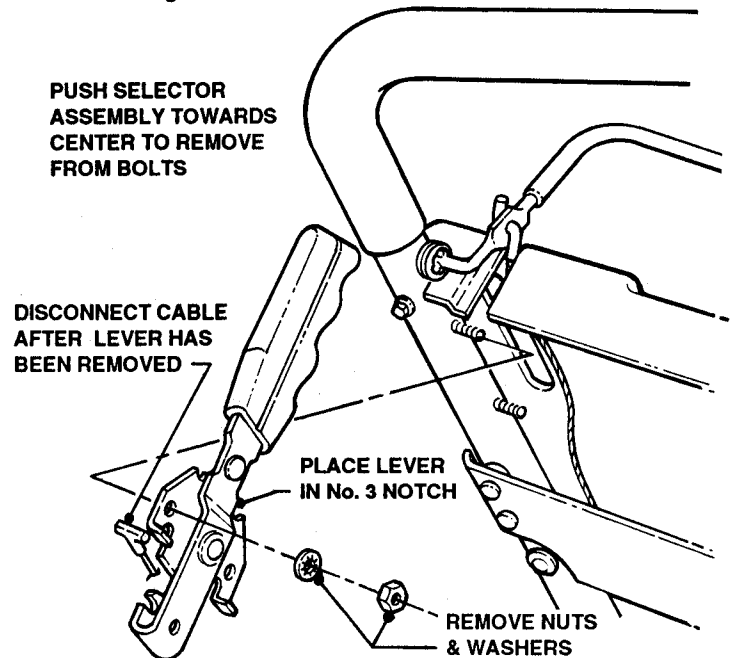

FIGURE 3.25
- Push Selector Assembly off bolts and remove by pulling handle down through slot. See Figure 3.25.